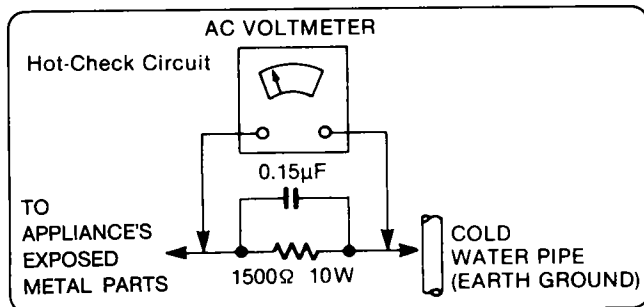

Figure 1
LEAKAGE CURRENT HOT CHECK (See Figure 1)
2. Connect a 1.5k ohm, 10 watts resistor, in parallel with a 0.15uF capacitor, between each exposed metallic part on the set and a good earth ground such as a water pipe, as shown in Figure 1.